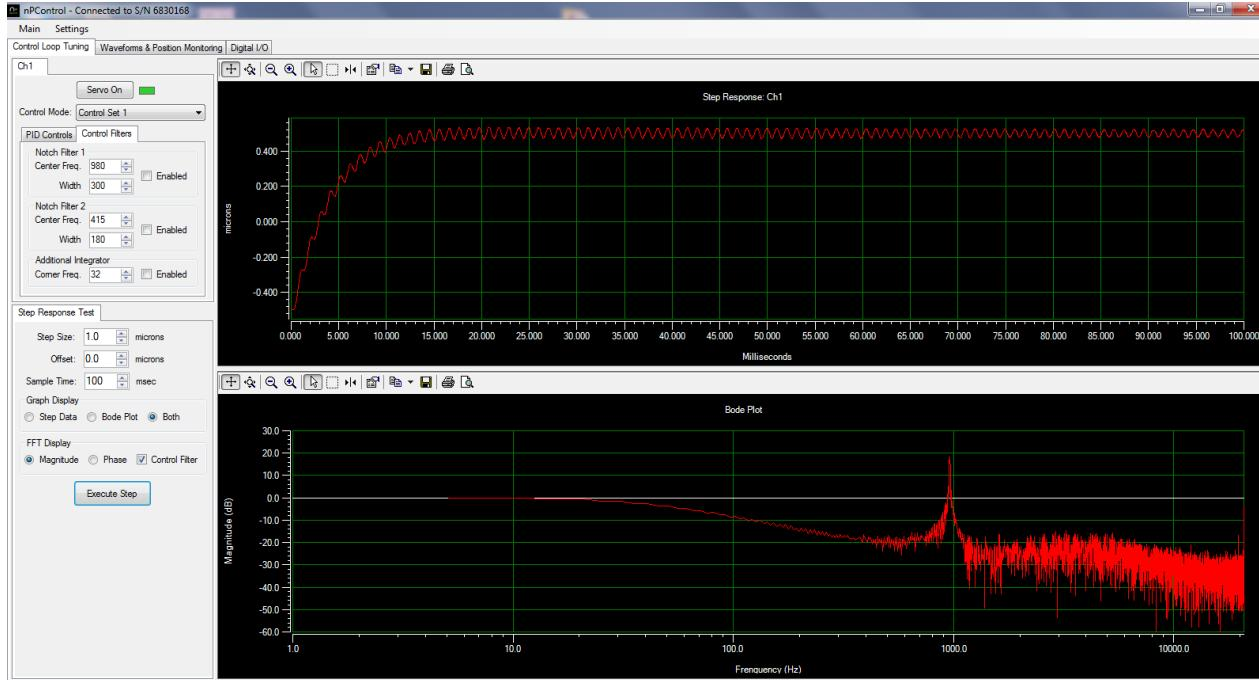

Figure 3-6: Step response of the system shown in Figure 3-5 in closed-loop without the proper notch filters enabled.
- For comparison, the step response of the system without the notch filter enabled is shown in Figure 3-6. The same I gain used in both cases.